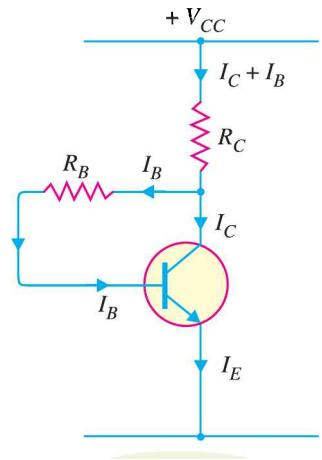

Fig. 9.19
In this method, one end of R_B is connected to the base and the other end to the collector as shown in Fig. 9.19. Here, the required zero signal base current is determined *not* by V_{CC} but by the collector-base voltage V_{CB} . It is clear that V_{CB} forward biases the base-emitter junction and hence base current I_B flows through R_B . This causes the zero signal collector current to flow in the circuit.
Circuit analysis. The required value of R_B needed to give the zero signal current I_C can be determined as follows. Referring to Fig. 9.19,
Note. It can be easily proved (See ***example 9.17*) that Q-point values (I_C and V_{CE}) for the circuit shown in Fig. 9.19 are given by ;
** Put $R_E = 0$ for the expression of I_C in example 9.17. It is because in the present circuit (Fig. 9.19), there is no R_E .